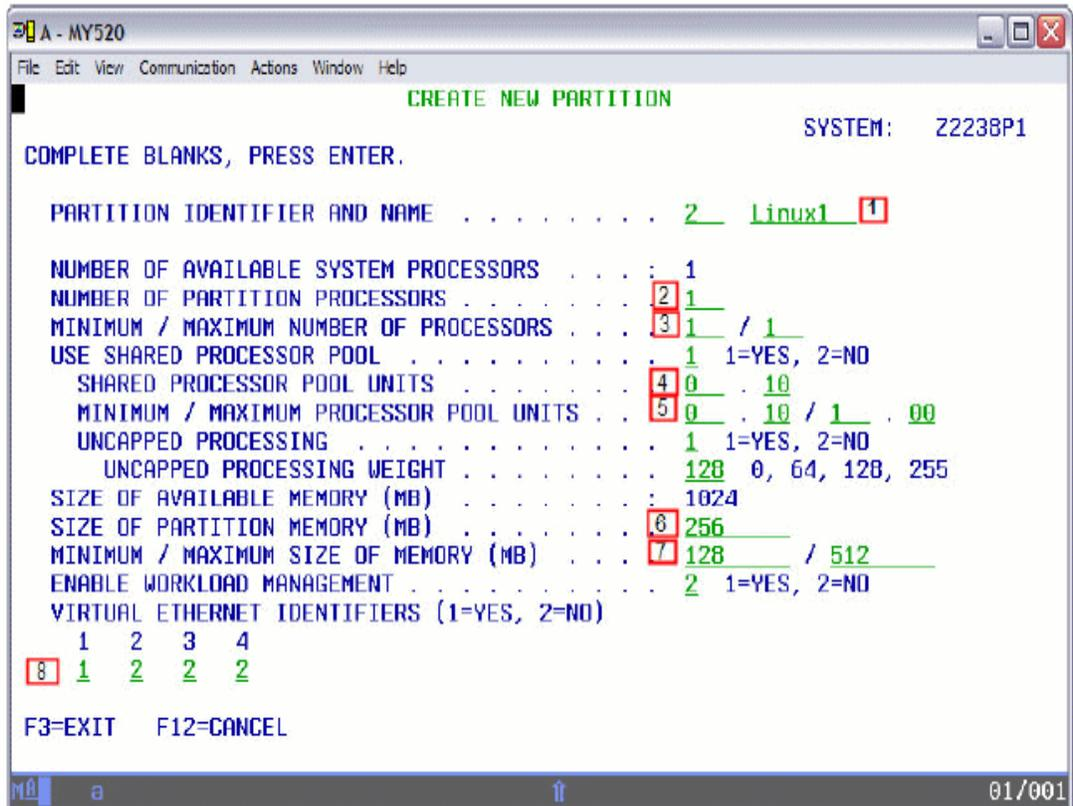

Figure 13-15 Create New Partition
2. Assign the values for creating the new Linux partition as per your Logical Partitioning Validation Tool (LVT) output, as shown in Figure 13-15. A brief explanation of each of the value is also provided here: